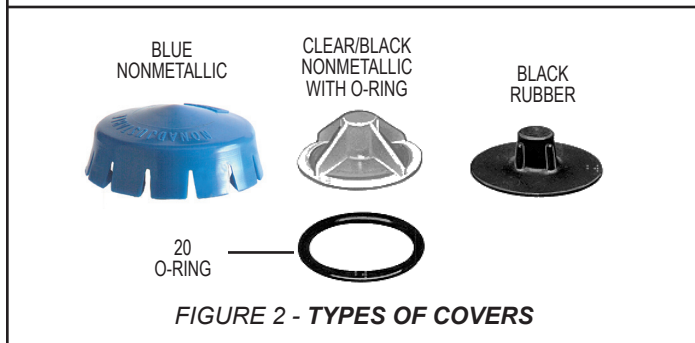

FIGURE 2 - TYPES OF COVERS
3. If the governor has a blue non-metallic cover, (refer to Figure 2) hold governor with one hand, with the other hand grip cover from the top and pull up until the cover disengages from the governor body. If the top cover on governor is made of rubber or clear non-metallic material, unscrew the cover until it releases from the adjusting screw (4) of governor. Remove o-ring (20, Figure 2) if present. Note: O-ring (20) is used on Hi-Temp and waterproof governors only.
4. With a pair of retaining ring pliers, remove the spring assembly retaining ring (1) and save.
5. Pull the adjusting screw (4) and spring assembly out of the governor body (2).
If cover provided in the kit is black rubber, (*refer to Figure 2*) install by pushing it onto the adjusting screw.